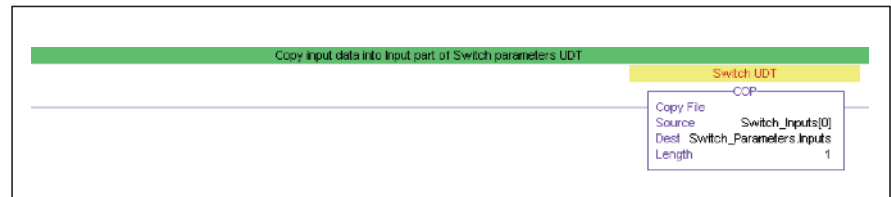
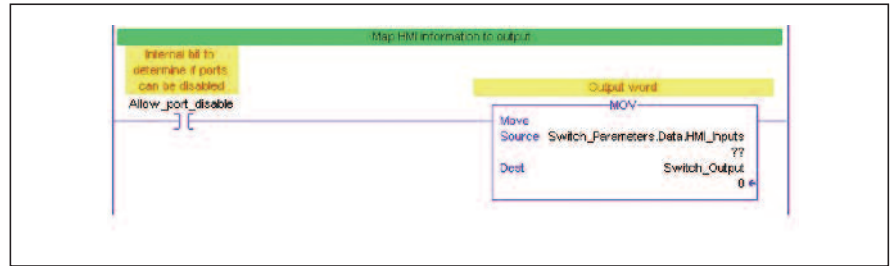

Figure 14 Code to copy data from device input word to UDT
Figure 15 Code to copy data from UDT to device output word
Working with implicit data on the I/O channel requires Copy (COP) or Move (MOV) instructions to transfer data, as shown in Figure 14 and Figure 15.
7. **Copy explicit data into a UDT.** The MSG instructions should be configured to read the data received from the device as a temporary storage array. To move data in this storage array into an instance of the UDT, use MOV and COP instructions (Figure 14 & Figure 15).